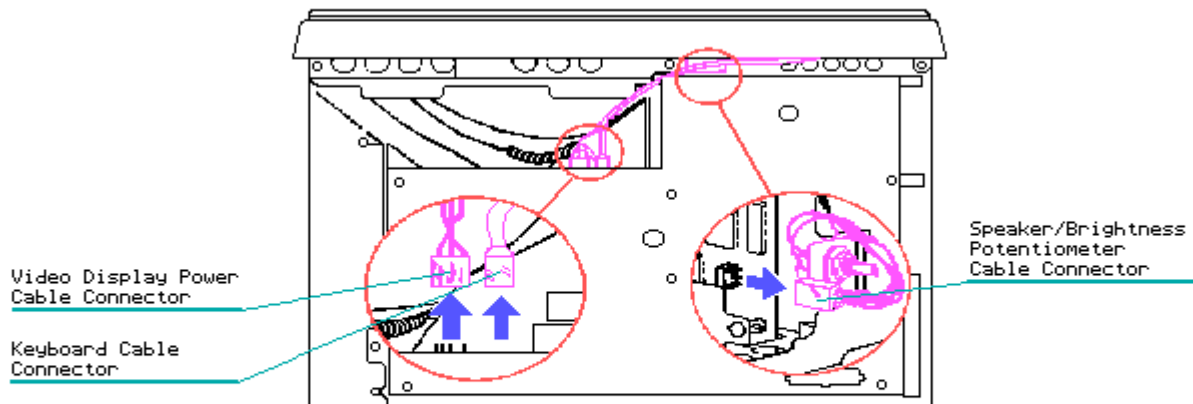

Figure 7-43. Disconnecting the Keyboard Power, VDU Power, and Speaker/Brightness Control Cables
7. Using Figure 7-43 as a reference, disconnect the keyboard power cable, the video display unit power cable, and the speaker/brightness control cable.